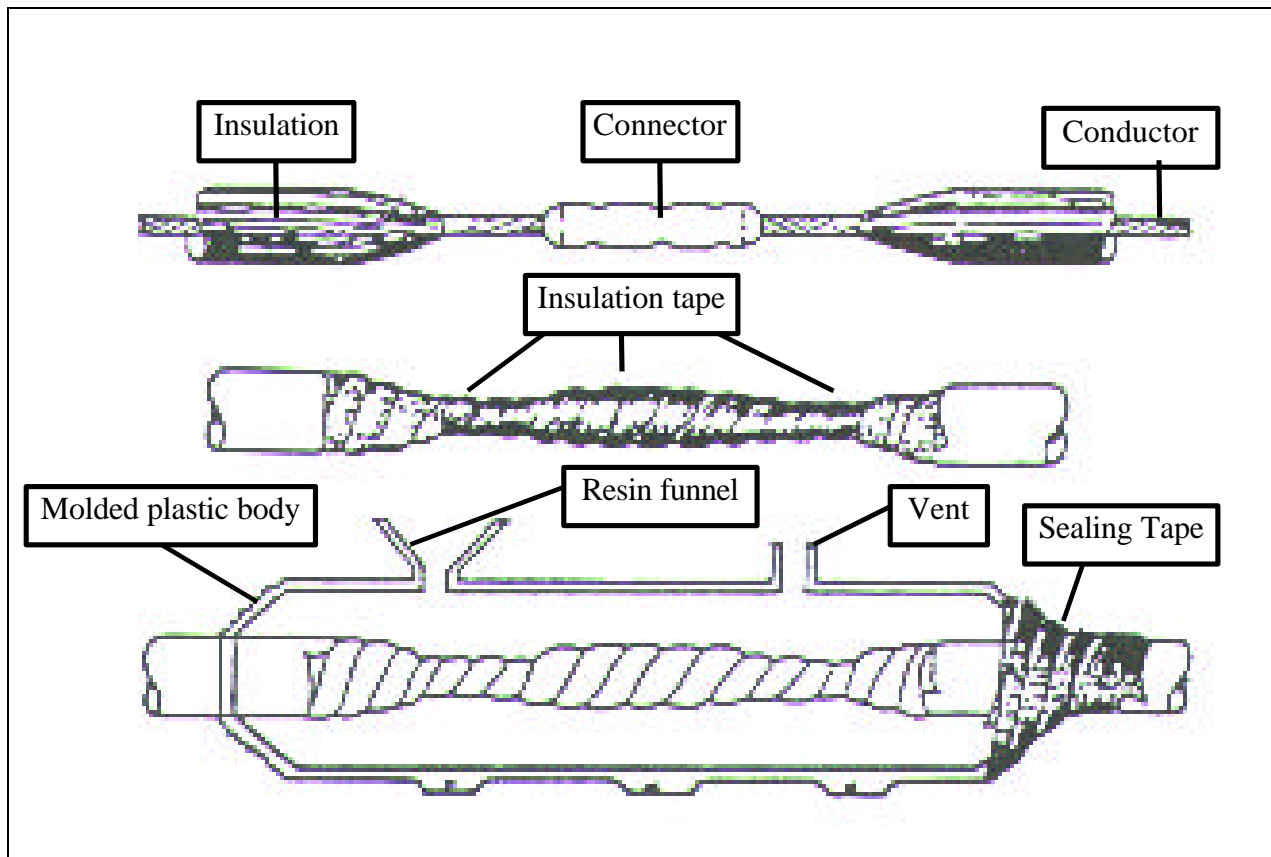

Figure 1, A resin splice.
Step 6: Pour resin. (Figure 1)